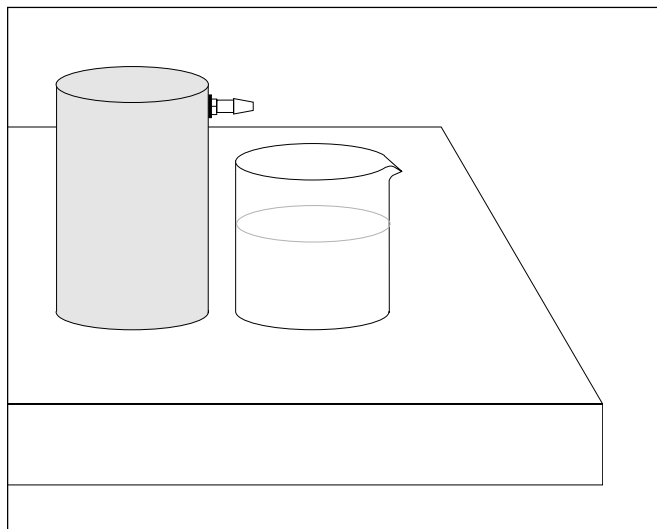

Figure 1: Overflow Setup
1. Put the beaker under the overflow can spout as shown in Figure 1.